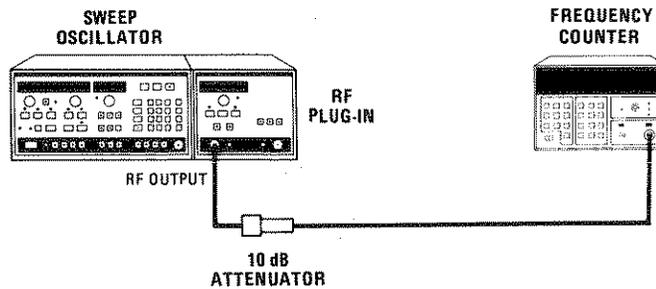

Figure 5-10. Test Setup for Frequency Accuracy Adjustments
YO Driver Board adjustments should be avoided if possible. Set up equipment as shown in Figure 5-10 and perform the last step in Paragraph 5-17 to check frequency accuracy and sweep linearity across the band. If frequencies are within ± 15 MHz tolerance, do not make these YO Driver Board adjustments.
1. Connect equipment as shown in Figure 5-10 with frequency counter and 10 dB attenuator connected to RF OUTPUT.